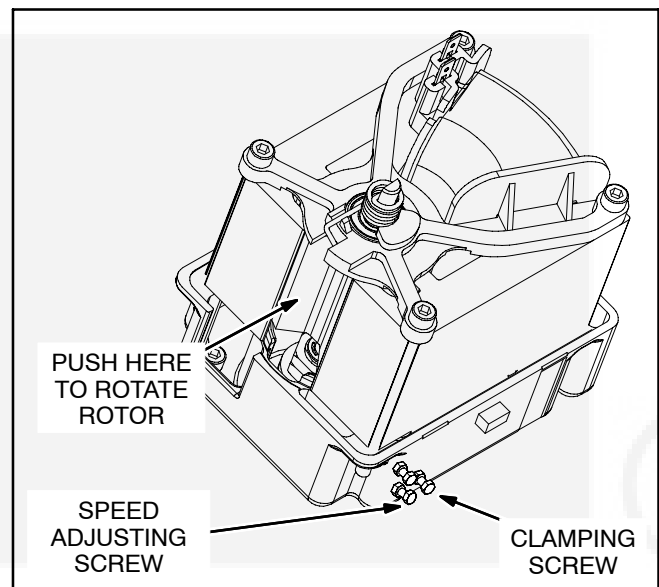

FIGURE 13-5. HIGH-IDLE SPEED ADJUSTMENT (BEGINNING SPEC B)
7. **Beginning Spec B:** (Figure 13-5).